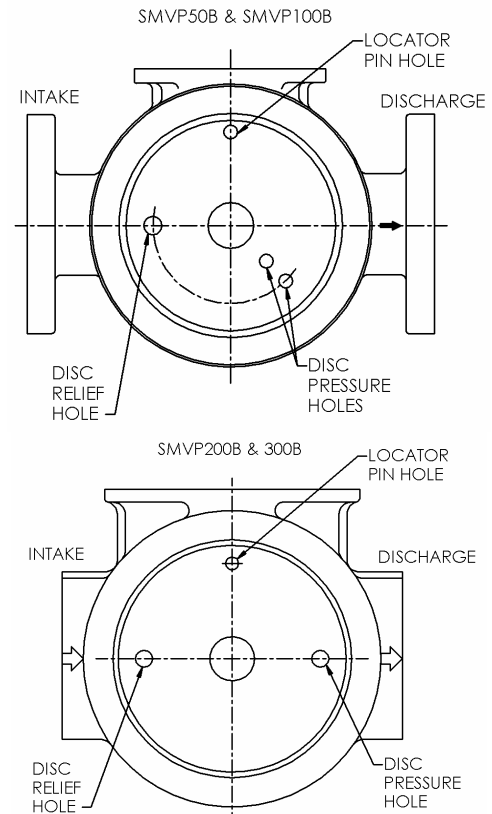

Figure 4 – SMVP Models
2. For SMVP Models install the disc (71) on the outboard end of the cylinder with the disc holes positioned as shown in Figure 4. Use the dowel locator pin hole to locate the disc.